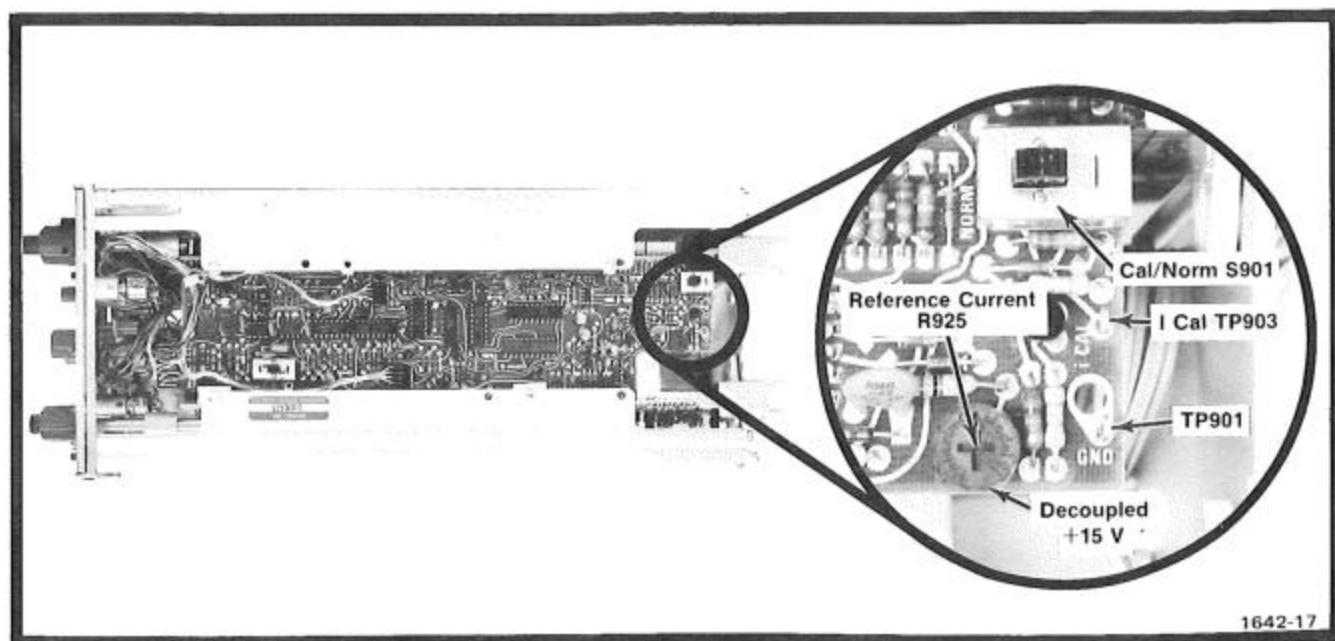

Fig. 5-12. Location of Wavelength Marker Circuit reference current test points and adjustment.
b. Connect the negative lead from the DVM to ground test point TP901 (see Fig. 5-12) and the positive meter lead to the decoupled +15 V supply side of Reference Current R925 (see Fig. 5-12).
d. Move the positive meter lead of the DVM from the decoupled +15 V supply to the I Cal test point TP 903 (see Fig. 5-12) and set the DVM to measure dc current.
e. Set the Cal/Norm switch S901 (see Fig. 5-12) to the Cal position.
g. ADJUST—Reference Current R925 (see Fig. 5-12) for the correct reference current as determined in step f.